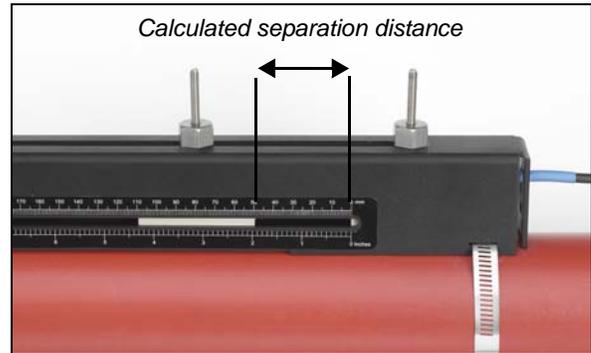

Figure 2.12
10. Position the upstream transducer so that the inner face of the transducer is set to the required separation distance on the ruler, as shown in Figure 2.12 (2 inches in this example).